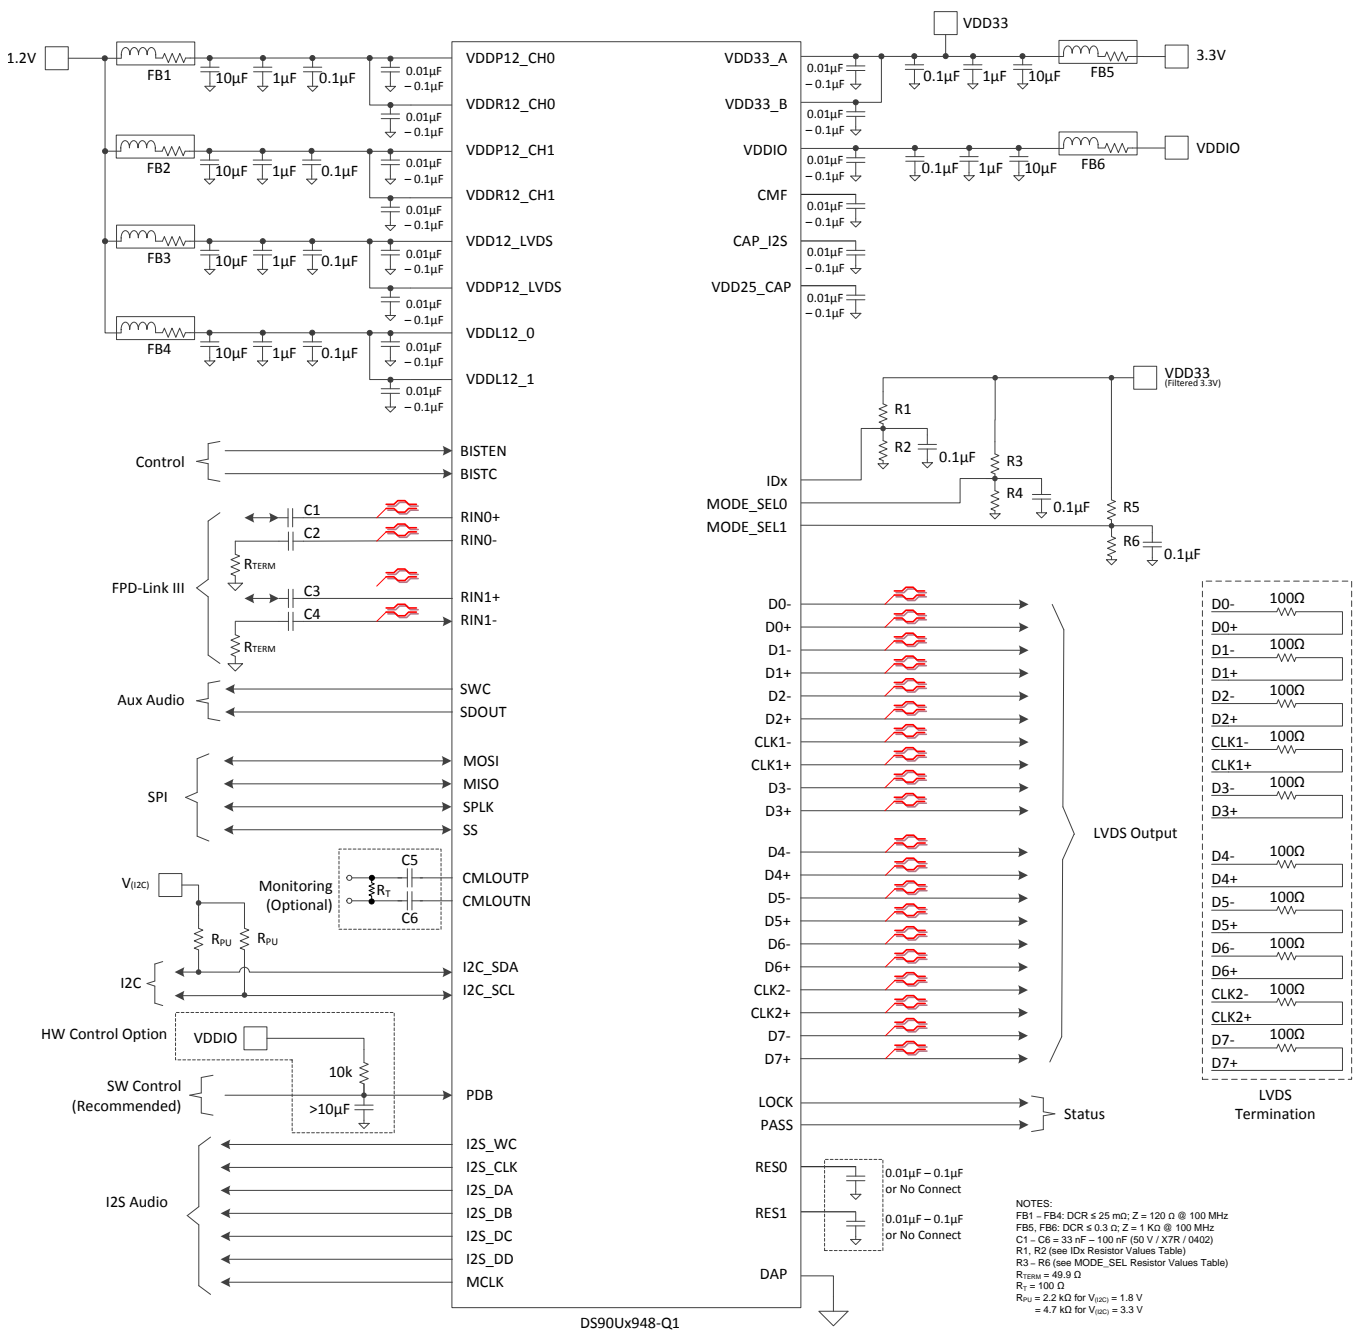

图 47. Typical Connection Diagram (Coax)
Bypass capacitors must be placed near the power supply pins. At a minimum, use four (4) 10-μF capacitors for local device bypassing. Ferrite beads are placed on the two sets of supply pins (VDD33 and VDDIO) for effective noise suppression. The interface to the graphics source is LVDS. The VDDIO pins may be connected to 3.3 V or 1.8 V. A capacitor and resistor are placed on the PDB pin to delay the enabling of the device until power is stable. See 图 47 for a typical STP connection diagram and 图 48 for a typical coax connection diagram.